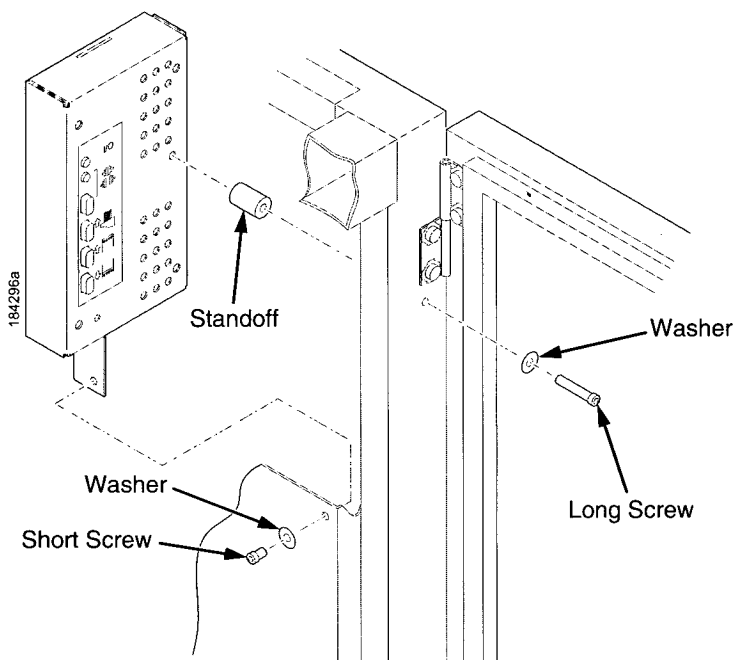

Figure 81. Removing the Stacker Control Panel
13. Remove two screws, washers, and the standoff from the stacker control panel. (Figure 81.)